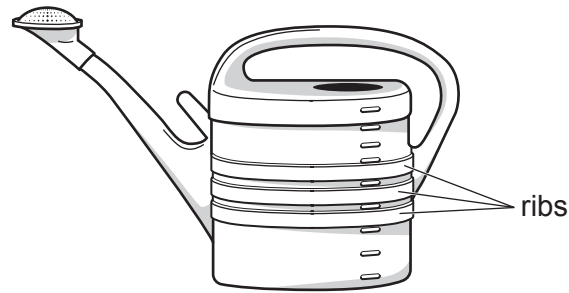

Fig. 4.1
- 4 Fig. 4.1 shows a watering can made of plastic.
- (c) State the purpose of the ribs shown in Fig 4.1.